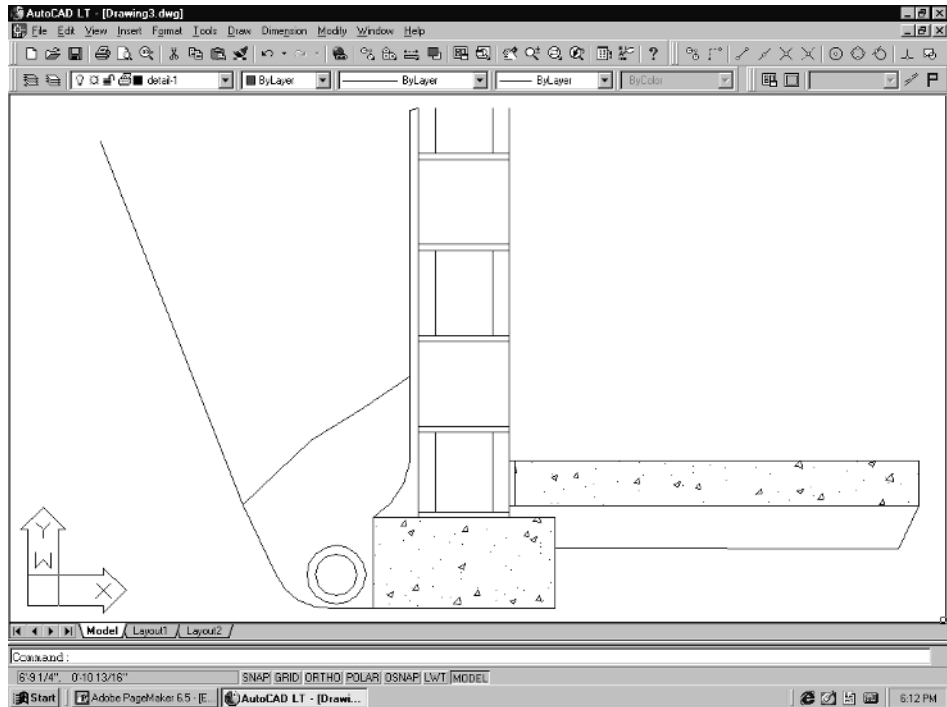

Figure 5-37
14. To finish the detail, draw a circle to represent the drain tile. Then, use the Polyline command to outline areas that you want to hatch with a sand pattern and an earth pattern. Also, use a polyline to draw the plaster line. You can do this freehand. Figure 5-37 shows the finished outlines before adding the final hatch patterns.